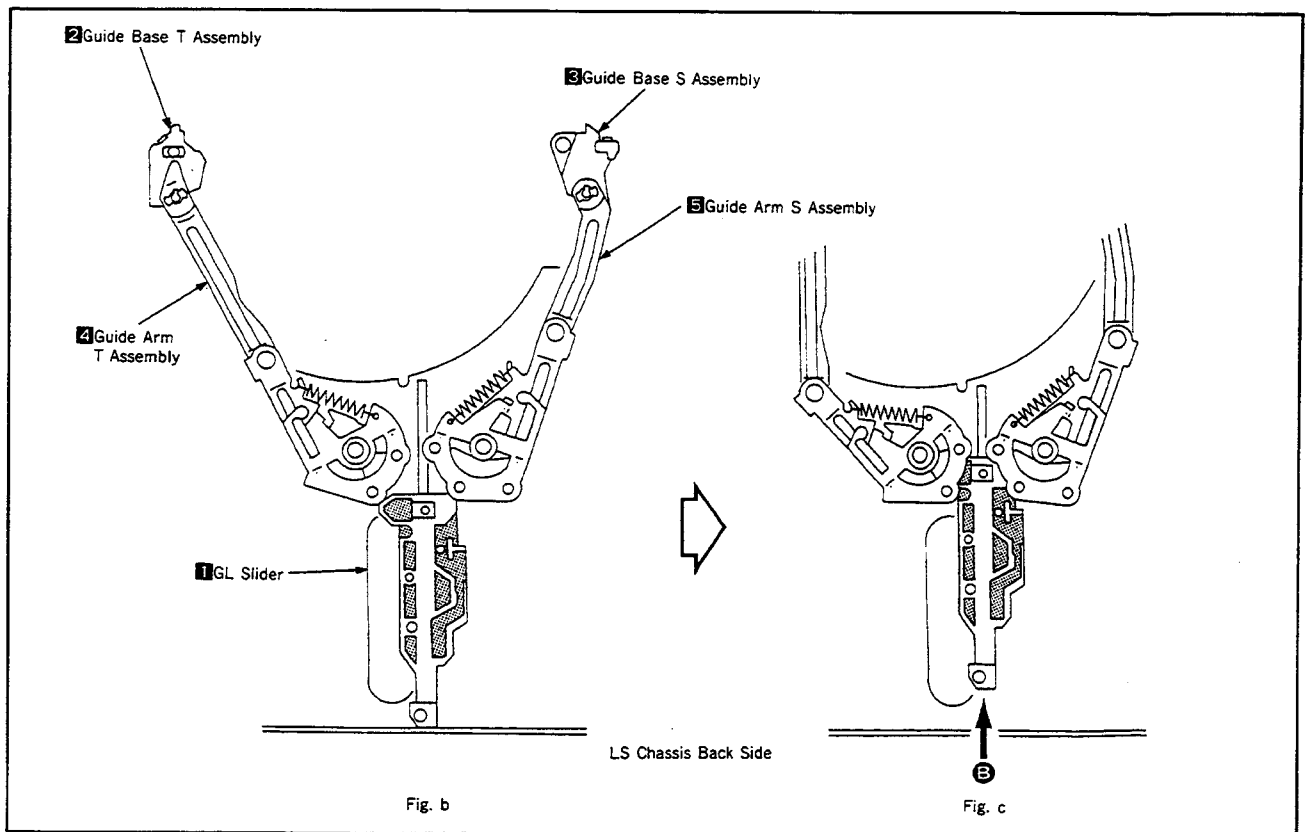

Fig. 16
- 2) On the back side of chassis, insert the guide arm T assembly **4**, guide arm S assembly **5** and GL slider **1** from position shown in Fig.b to position shown in Fig. c. Also, aligning the guide base T assembly **2** and guide base S assembly **3** with the respective guide rails, push in the GL slider **1** toward the arrow **B** as shown in Fig. 16.